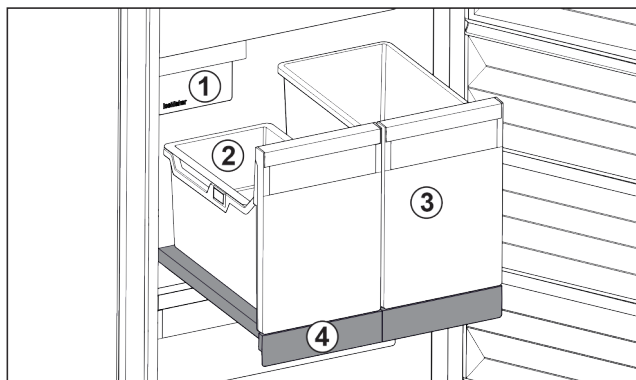

Fig. 17 Pull-out board with IceTower
- (1) IceMaker
- (2) Hang-on tray for ice cubes
- (3) Container for pizza or alcoholic beverages, for example
- (4) Pull-out board
On the pull-out board are two tall containers (IceTower). Ice cubes from the IceMaker are collected and stored in the container Fig. 17 (2). The container Fig. 17 (3) is suitable for storing tall foodstuffs or beverages such as pizzas or alcoholic drinks.